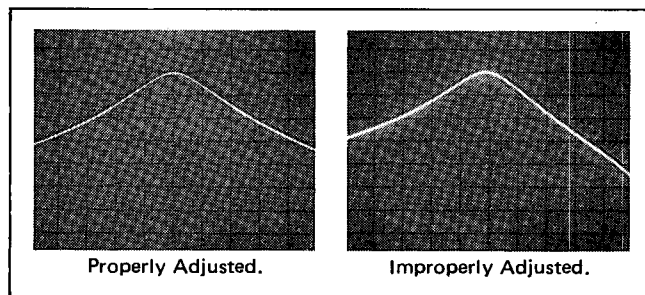

Figure 5-4. Symmetry Adjustment.
- l. Adjust A5C15 (Stage 5 Peak Adj.) so that the peak of the response curve is in the center of the display (see Figure 5-4).
- m. Repeat Steps k and l until optimum adjustment (Figure 5-4) is obtained.